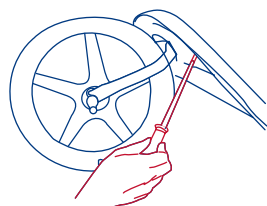

Fig. 24b
- Insert the 4 screws through the underside of the front frame assembly into the front fender's plastic tubes. Tighten the screws only until snug (Fig. 24b). **DO NOT OVER TIGHTEN.**